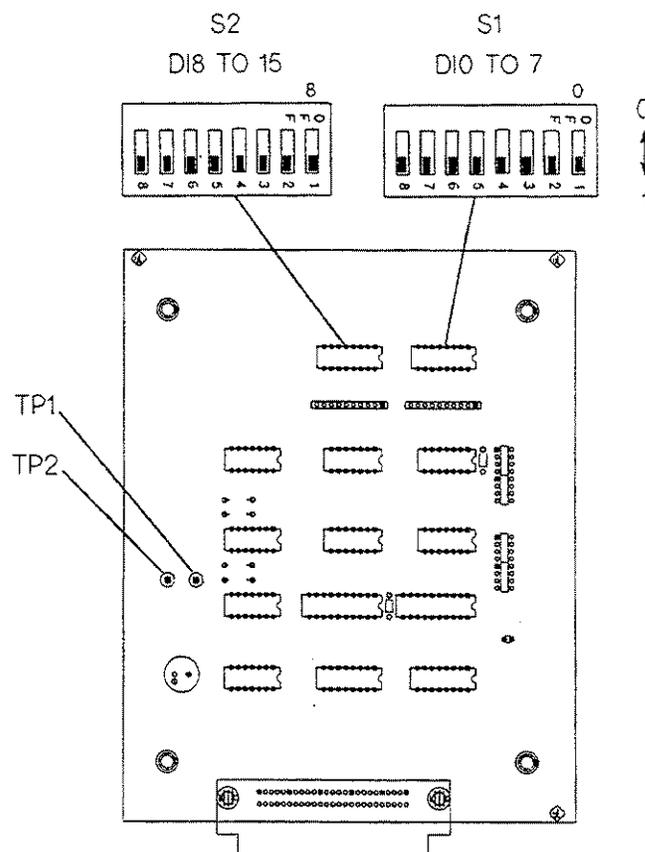
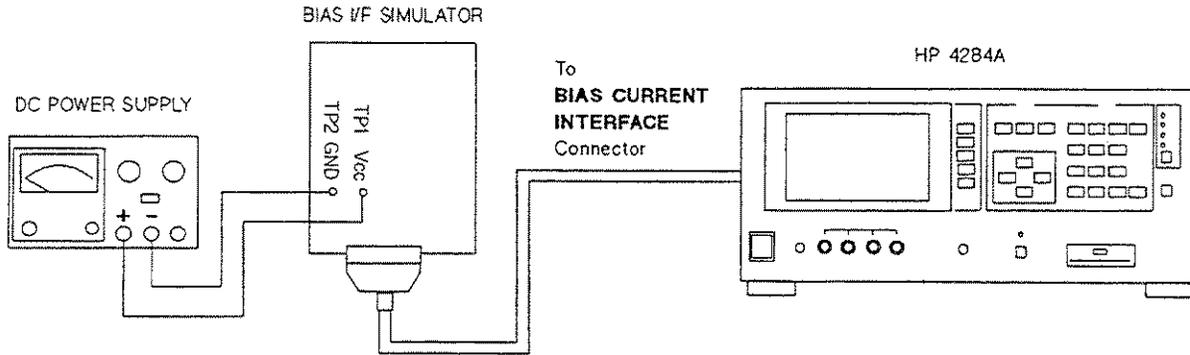

Figure 10-9. Bias Interface Simulator
Figure 10-10. Bias Current Interface Function Test Setup
Procedure: 1. Set all switches of S1 and S2 on the bias interface simulator to '1' as shown in Figure 10-9.
2. Set DC power supply output voltage +5 V. Connect TP2(GND) on the bias interface simulator to '-' terminal of the power supply. Then connect TP1(Vcc) on the simulator to '+' terminal of the power supply. (refer to Figure 10-9 and Figure 10-10)
- Interconnect the bias interface simulator and bias interface connector on the rear panel of the HP 4284A with the bias interface cable as shown in Figure 10-10.